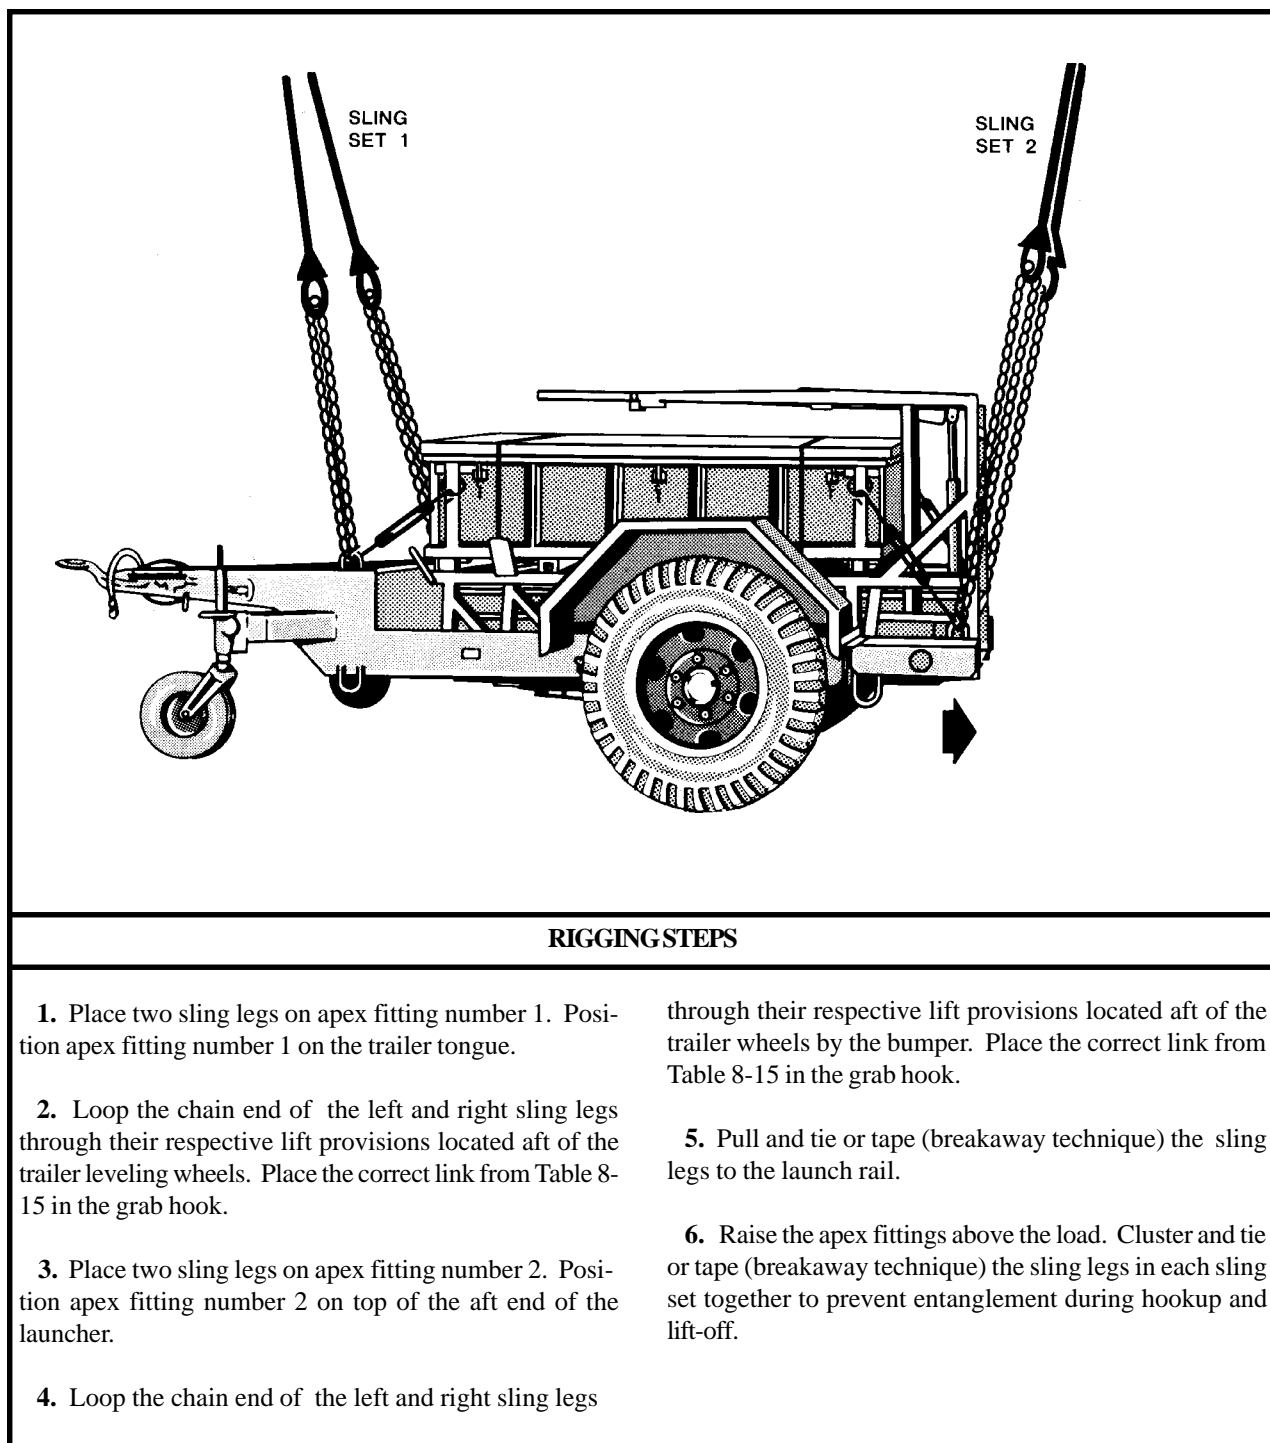

Figure 8-15. Mine Clearing Line Charge Mounted on M353 Trailer
(2) Rigging. Rig the load according to the steps in Figure 8-15.
(3) Hookup. Two hookup teams are required for this load. The static discharge person discharges the static electricity. The forward hookup person stands on the trailer chassis and places apex fitting 2 onto the forward cargo hook. The aft hookup person stands on the trailer chassis and places apex fitting 1 (lunette end) onto the aft cargo hook. The hookup teams then carefully dismount the load and remain close to the load as the helicopter removes slack from the sling legs. When successful hookup is assured, the hookup teams quickly exit the area underneath the helicopter to the designated rendezvous point.
(4) Derigging. Derigging is the reverse of the preparation and rigging procedures in steps d (1) and d (2).